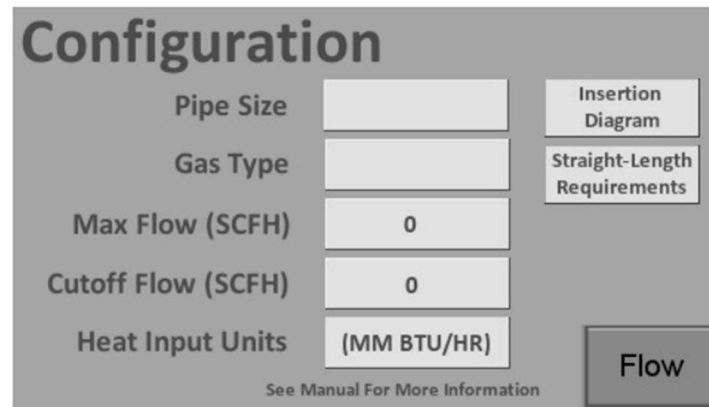

Figure 7: Configuration Screen on Meter Power-up
11. Plug in the flow meter's power cord to 120 VAC power. The display on the flow meter and the touch screen should power up. After both have initialized (booted), the configuration screen should look like Figure 7 below.